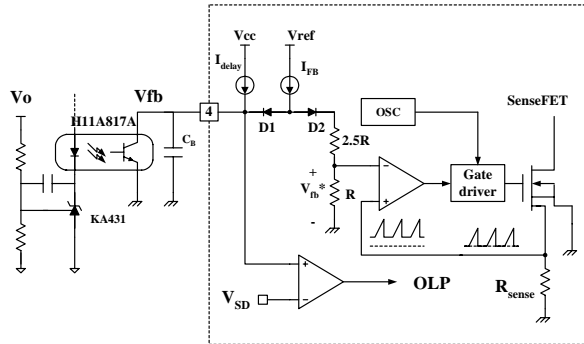

Figure 5. Pulse width modulation (PWM) circuit
2. Feedback Control: FPS employs current mode control, as shown in Figure 5. An opto-coupler (such as the H11A817A) and shunt regulator (such as the KA431) are typically used to implement the feedback network. Comparing the feedback voltage with the voltage across the R_{sense} resistor makes it possible to control the switching duty cycle. When the reference pin voltage of the KA431 exceeds the internal reference voltage of 2.5V, the H11A817A LED current increases, thus pulling down the feedback voltage and reducing the duty cycle. This event typically happens when the input voltage is increased or the output load is decreased.
2.1 Pulse-by-pulse current limit: Because current mode control is employed, the peak current through the Sense FET is limited by the inverting input of PWM comparator (V_{fb}^*) as shown in Figure 5. Assuming that the 0.9mA current source flows only through the internal resistor ($2.5R + R = 2.8 k\Omega$), the cathode voltage of diode D2 is about 2.5V. Since D1 is blocked when the feedback voltage (V_{fb}) exceeds 2.5V, the maximum voltage of the cathode of D2 is clamped at this voltage, thus clamping V_{fb}^* . Therefore, the peak value of the current through the Sense FET is limited.